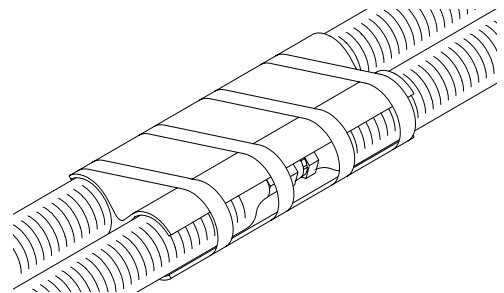

Figure 13. Hose Connection Step (d)
- d) Install the isolator between the chemical hose fittings and tape securely in place (See Figure 13).